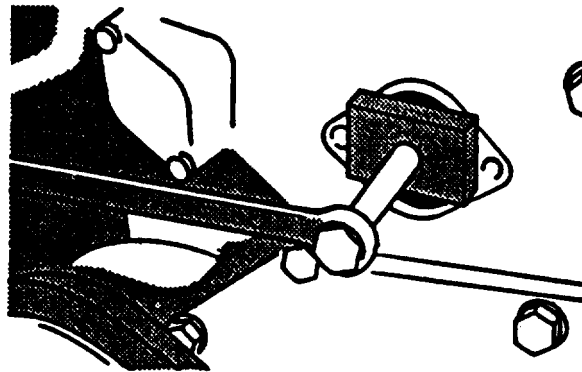

**FIGURE 3-43. Fuel Injection Pump Gear Access (Cover Removed)**
- i. Remove injection pump cover plate from timing gear cover, refer to FIGURE 3-43, cover shown removed.